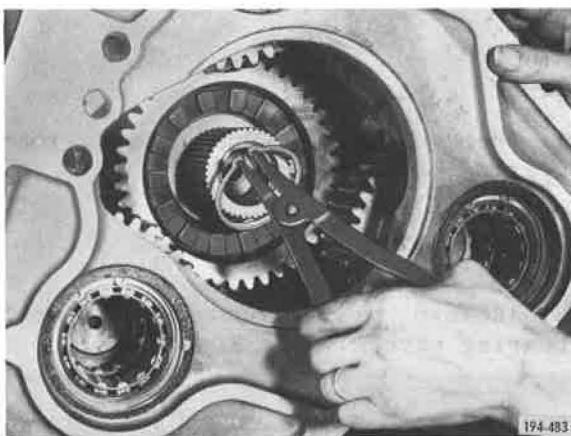
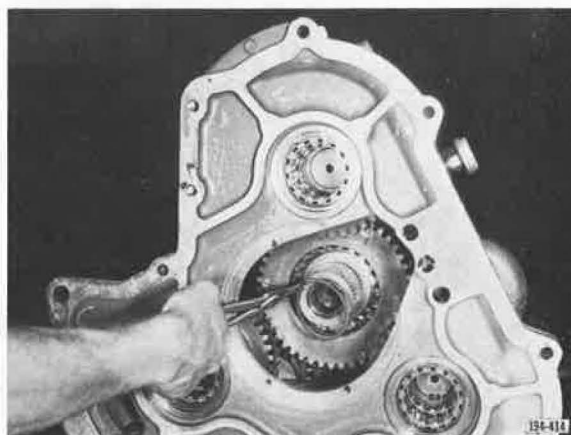

Figure 64. Removing Snap Ring (TRTXL107)
Figure 65. Removing Snap Ring (TRTXL1070)
7. Remove Lo/Hi range gear snap ring, using snap ring pliers J-6435 or equivalent. See Figure 64 for TRTXL107 and Figure 65 for TRTXL1070.